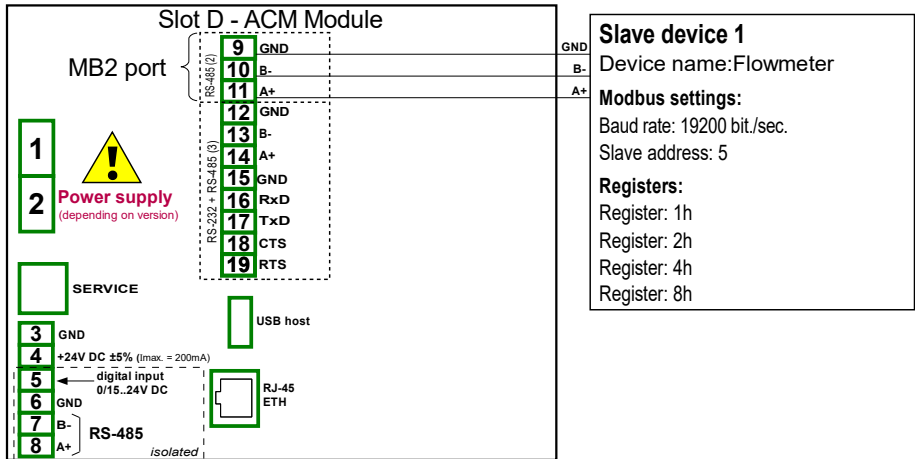

Fig. 7.155. Connection diagram for the Modbus MB2 port
First we need to configure the device according to the following recommendations, then connect the device in according with **Fig. 7.155**.
- using the arrows in the upper right corner choose **Port number: 1 (MB1)** in accordance with **Fig. 7.155**),